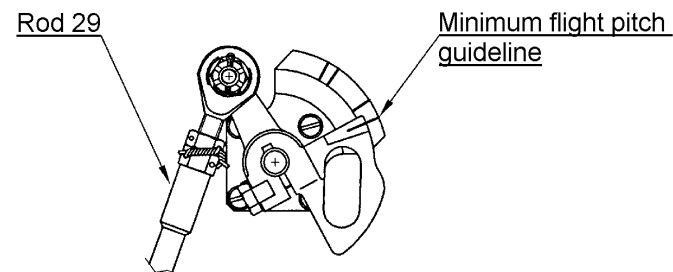

Figure 11-33 Adjustment using rod 29
- k) Change lever 29 length (figure 11-33).